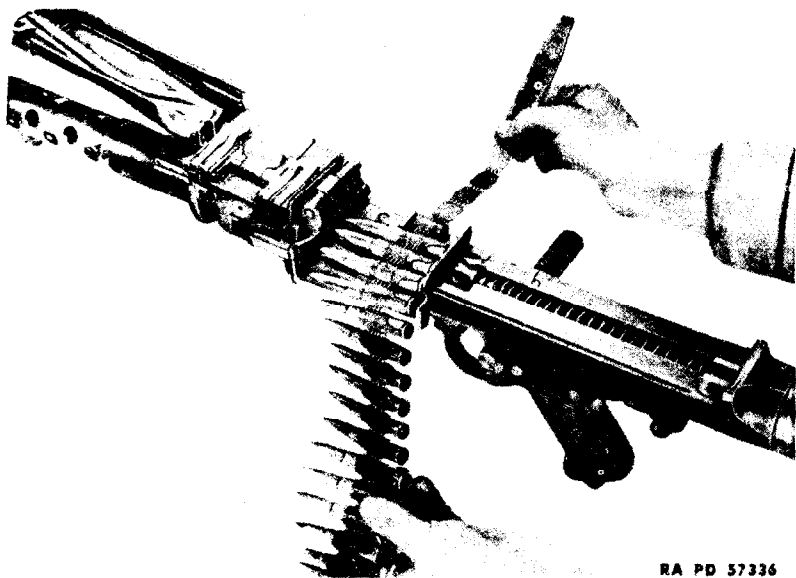

Figure 19 — Positioning Belt on Feed Block
(3) Place the loaded belt on the feed block, so that the first round is on the slot of the feed block, and the leading tab is to the right (fig. 19).